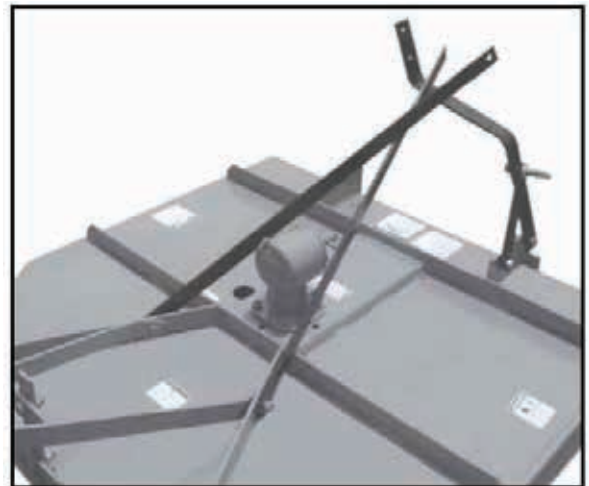

Figure 5
Install both the right and left side lift arm braces by sliding them over the A-frame tailwheel bolts (2) that were loosened in Step 4. Start the nuts on the bolts, but at this time **DO NOT TIGHTEN THEM**. Allow the lift arm braces to rotate forward and rest against the installed lift arm. (See Figure 5)